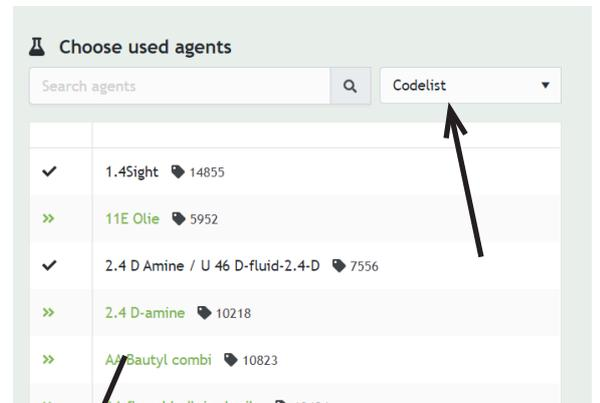

Figure 2
3. Enter the data. If you are updating stock, select 'Stock' under 'Select agents used'. You will then see a list of products you have in stock. If you are not keeping stock records or if you have not yet created the product concerned in your stock, select 'Code list'. You will then see a complete list of products from which you can make your selection (see figure 2).